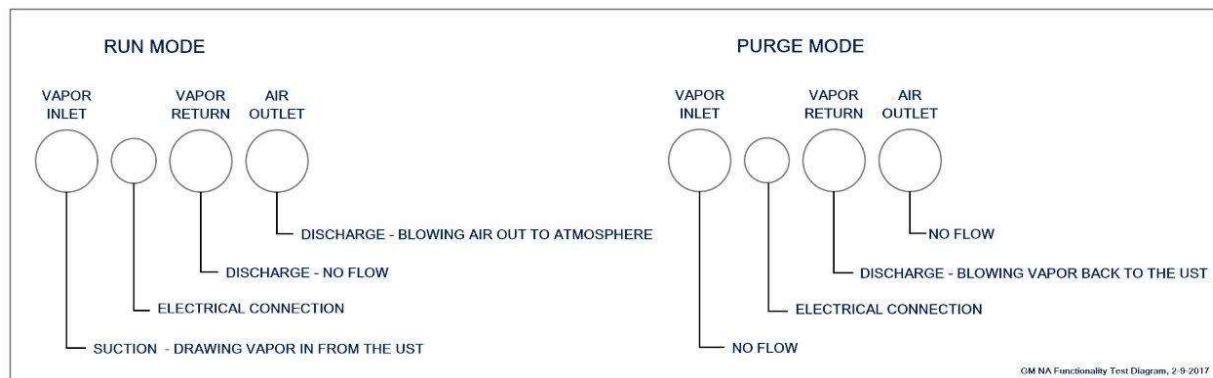

Figure 6-10: GREEN MACHINE Operation Diagram
7. During the 60-second Run Cycle: **See Figure 6-10.**
9. During the 60-second Purge Cycle: **See Figure 6-10.**